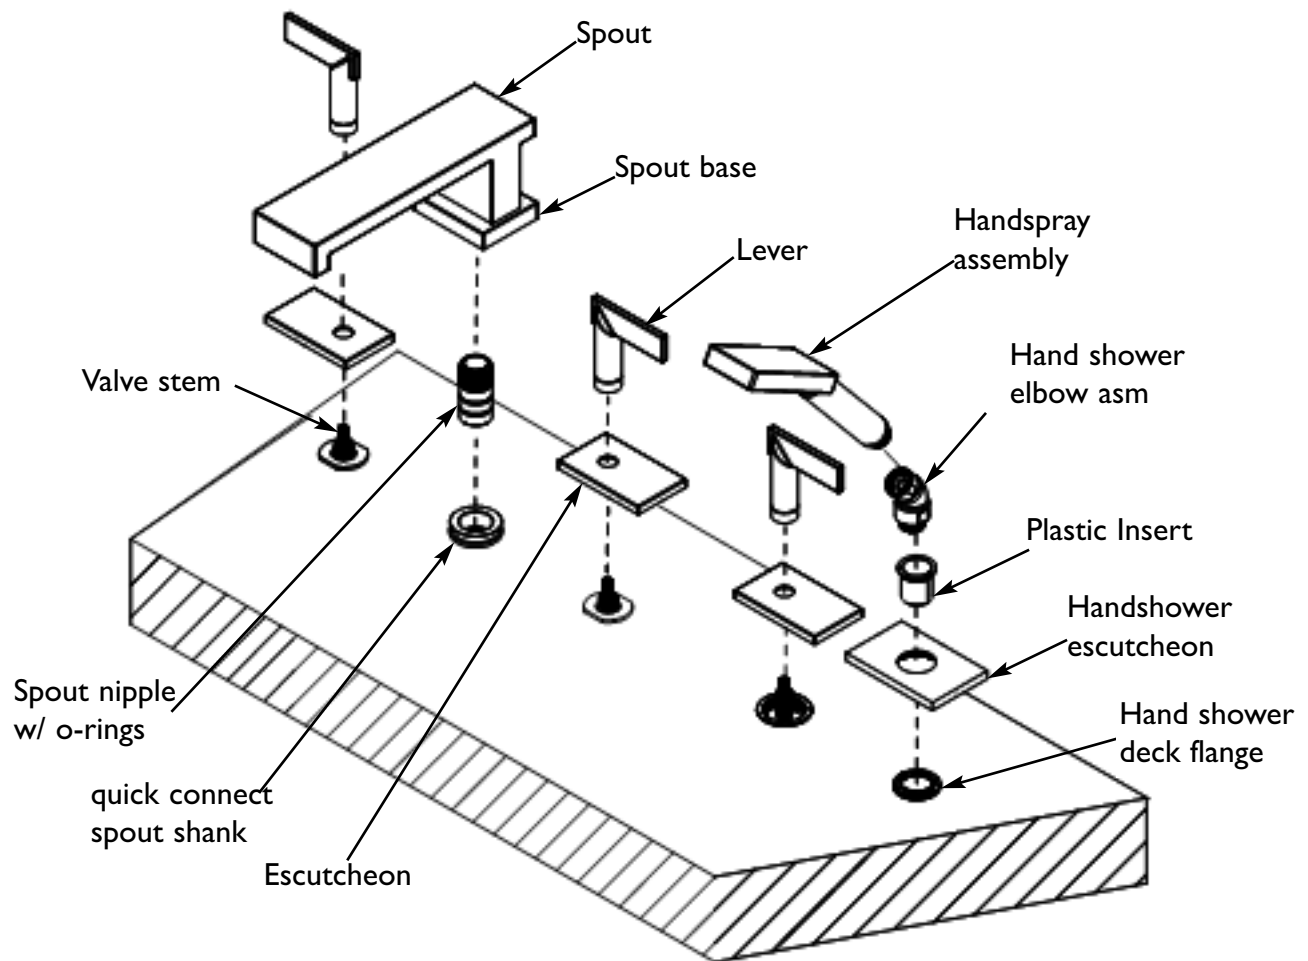

Fig. 3
1. Place escutcheon over valve stem. Secure handle assembly into place by first engaging the valve stem, then position and hold the handle lever while rotating the bonnet. Any adjustments for rotational alignment must be made to the valve body, not to the cartridge. See Fig 3.
2. Apply plumbers tape to spout nipple and install into base of spout. Insert spout and nipple into deck flange. Make sure spout bottoms out onto quick connect spout and then secure in place with setscrews. See Fig. 3.